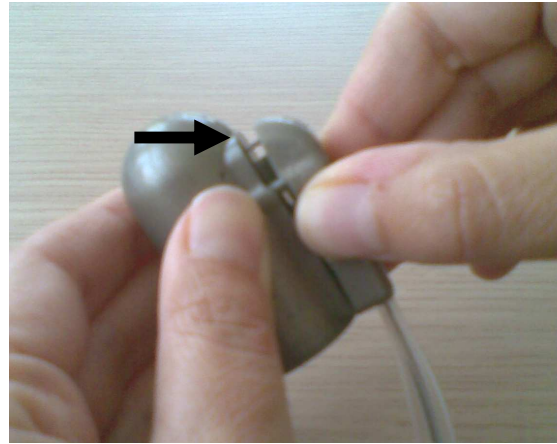

Figure 17 - COM port search
1. Switch on the computer, the Endo-PAT2000 device, and launch the Endo-PAT2000 software with the shortcut icon on the desktop. When the Endo-PAT2000 software is launched it performs an automatic COM port search and communication test with the device. If the software is unable to establish communication with the device, a COM-port search dialog box will open (Figure 17). While this dialog box is open the system continues trying to establish communication with the device, going through COM ports 1 to 10 in a cyclical manner. This continues until communication is established or “Work Disconnected” is selected.